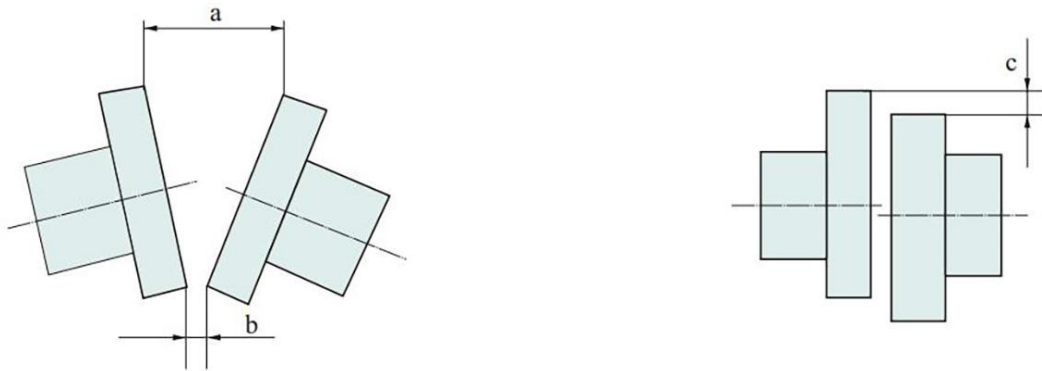

Fig. 5
b. Put the pad under the motor while to adjust both pump and motor. Angle adjustment is to guarantee the parallelism of the two planes of the clutches. Use a dial gauge to check four points on the end-face of the clutch flange, the reading on the gauge is 0.02~0.03, and use a feeler to check the parallelism, the difference (a-b) between the two planes is ≤ 0.06 (see Fig. 5). Central line alignment means the aligned degree between the central lines of both pump and motor's shafts,
c should be ≤ 0.08 (see Fig. 5)